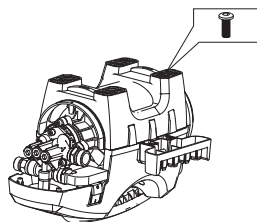
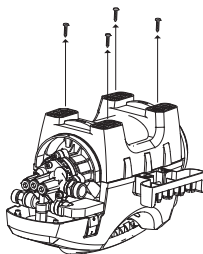

Fig.1
Fig.2
1. Invert the cleaning machine to remove the four bottom screws (Fig.1) (Fig.2).